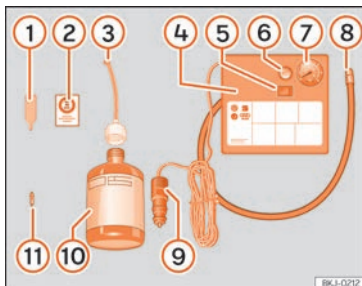

Fig. 68 Standard display: contents of the anti-puncture kit.
- Unscrew the tyre valve cap and insert. Use the **»» Fig. 68 ①** tool to remove the insert. Place it on a clean surface.
- Shake the tyre sealant bottle vigorously **»» Fig. 68 ⑩**.
- Screw the inflator tube **»» Fig. 68 ③** into the sealant bottle. The bottle's seal will break automatically.
- Remove the lid from the filling tube **»» Fig. 68 ③** and screw the open end of the tube into the tyre valve.
- Place the insert back into the tyre valve using the tool **»» Fig. 68 ①**.
- Screw the compressor tyre inflator tube **»» Fig. 68 ⑧** into the tyre valve.
- Check that the air bleed screw is closed **»» Fig. 68 ⑥**.
- Insert the connector **»» Fig. 68 ⑨** into the vehicle's 12-volt socket **»» page 155**.
- Turn the air compressor on with the ON/OFF switch **»» Fig. 68 ⑤**.